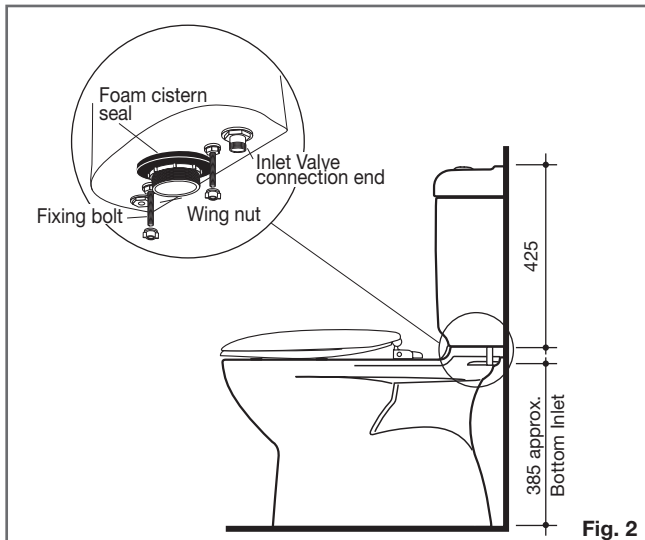

Fig. 2
- 1- Ensure the pre-fixed foam seal at base of cistern is securely attached to cistern base, as detailed in **Fig. 2**.